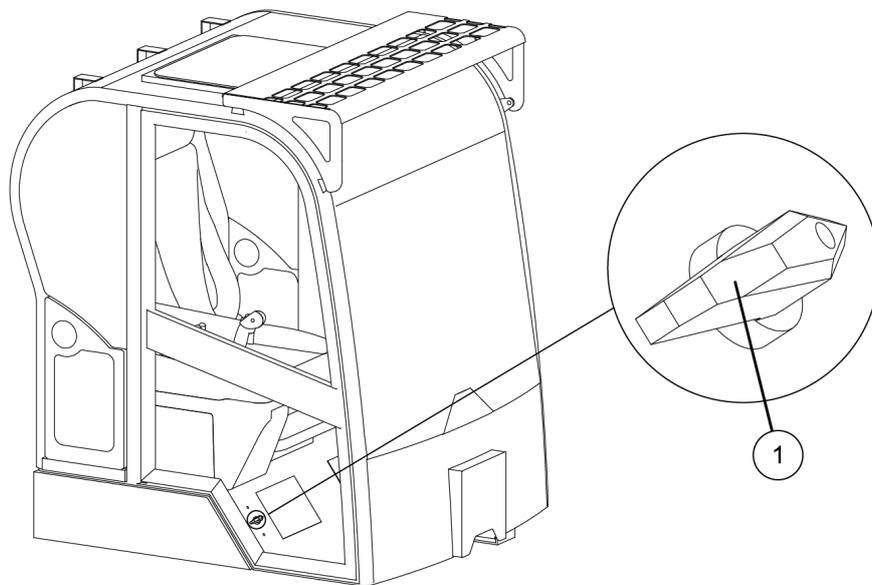

Figure 5-21 Cab
Step 1: Turn on the power switch (1) in the cab, as shown in Figure 5-21;